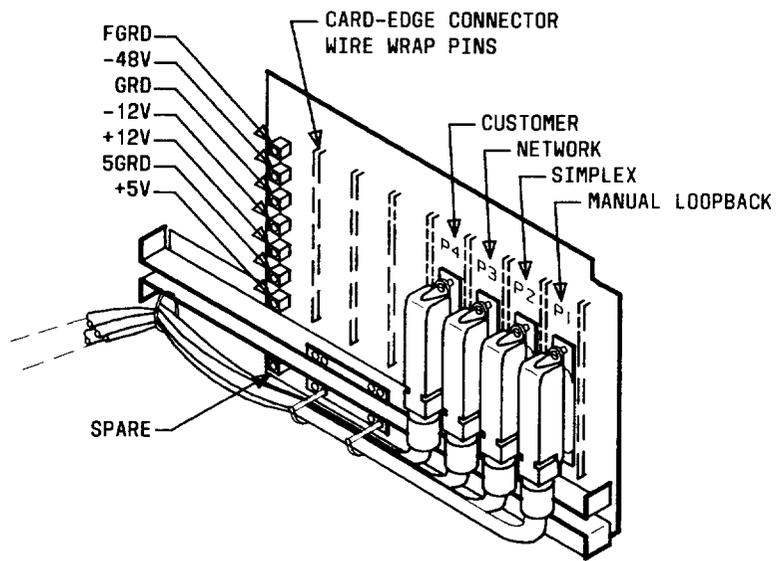

Fig. 2—Rear View of 146H Mounting Backplane
4.02 Power is supplied to the mounting by connecting power supply leads to the appropriate terminals on the rear of the mounting backplane (Fig. 2). The 11BT and 11BU power supply kits, recommended for use with the 146H mounting, can either be mounted inside the 146H housing or on a wall. Receptacle-mounted power supplies or bulk power sources may also be used, if desired.